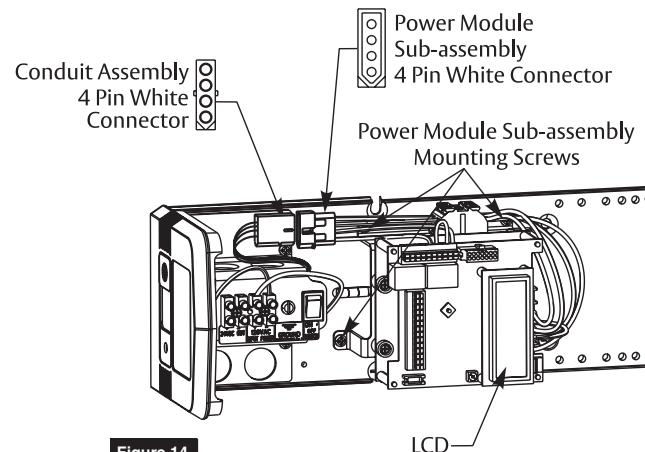

Figure 14
- Using three (3) #8-32 x 5/16" Phillips screws, secure power module sub-assembly to backplate at location marked on backplate. (Figure 14)
NOTE: Orient assembly so LCD screen on inverter is toward closer assembly. (Figure 14)
- Attach 4-pin white rectangular connectors between power module sub-assembly and conduit assembly. (Figure 14)